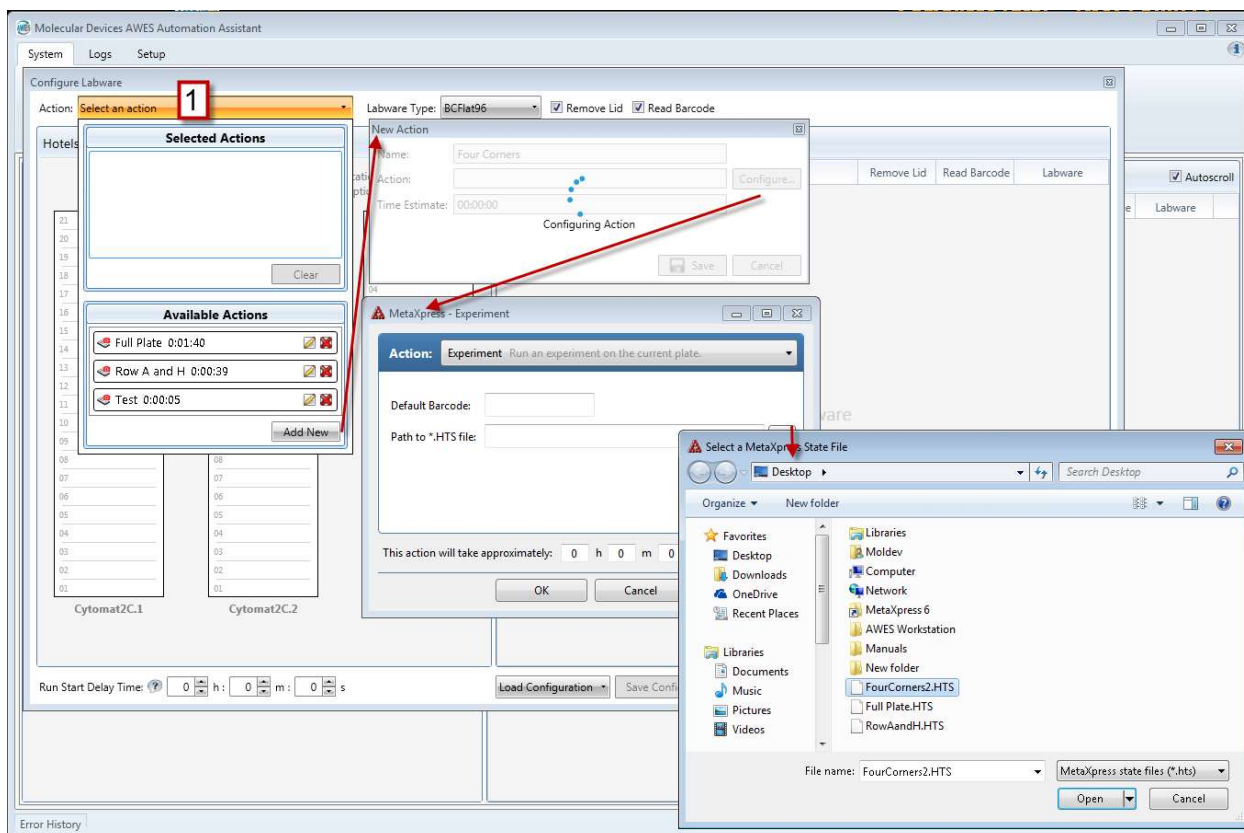

Figure 4 – Selecting an Action: Note that the Add New button and subsequent dialogs are only needed if the Action has not been previously added.
1. Within the **Configure Labware** window, click the **Actions** drop-down box. Initially, the **Selected Actions** and **Available Actions** lists will be empty (Figure 4).